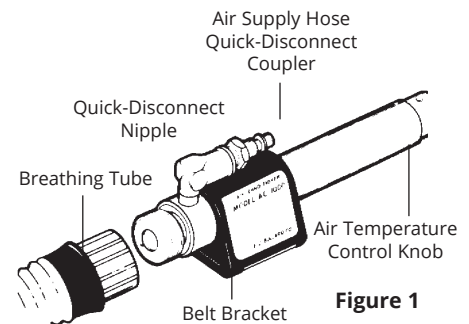

Figure 1
1. In an uncontaminated atmosphere, screw the hose connector fitting on the end of the breathing tube to the fitting on the AC1000. Tighten hose connectors firmly (Figure 1).
6. To obtain cooler air, turn the air temperature control knob counterclockwise (Figure 1).